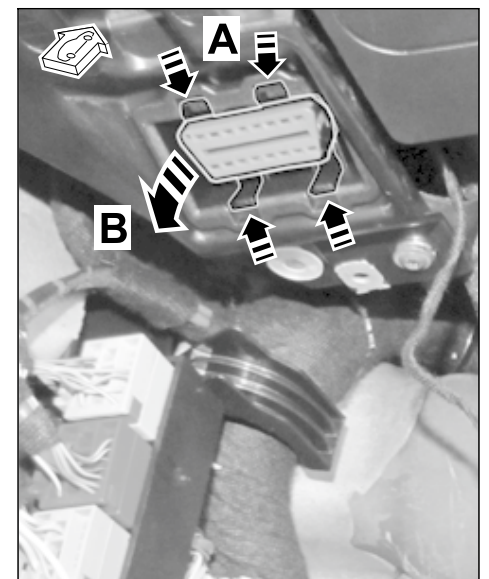

Figure 6
1.7 Remove diagnostic socket (under dashboard ⇒ *Figure 6*).
1.7.1 Press locking lugs (4 x) on diagnostic socket at the same time (⇒ *Figure 6-A-*).
1.7.2 Pull diagnostic socket forward out of the dashboard retaining frame and remove it (⇒ *Figure 6-B-*).